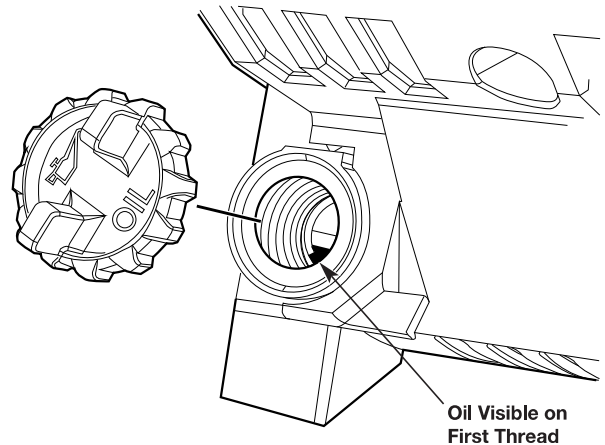

Fig. 22
3. Unscrew the oil fill plug. The oil level should be visible on the first thread of the oil reservoir (Fig. 22). If the oil level is too low, add oil. Refer to Adding Oil.
1. Clean the area around the oil fill plug (Fig. 22) to prevent debris from entering the oil fill hole.
3. Add oil to the oil fill hole until the oil level is visible on the first thread of the oil reservoir (Fig. 22).